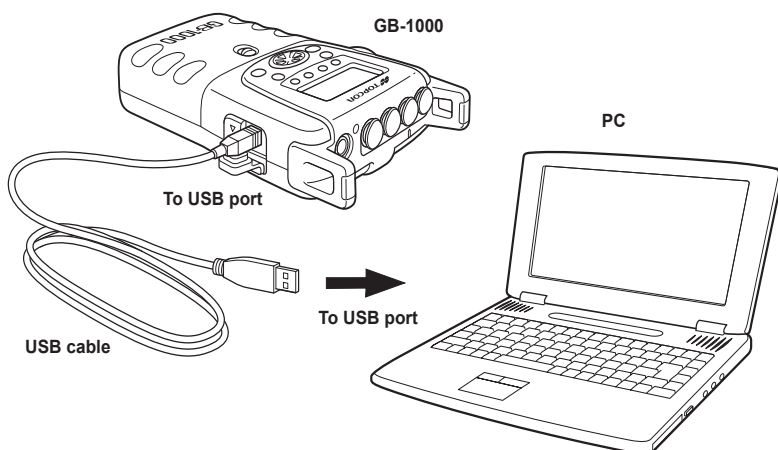

Figure 3-2. Example GB-500 and Computer Connection via USB
1. Connect the receiver and computer (Figure 3-2):